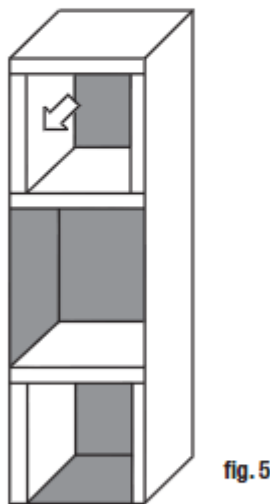

fig. 5
- Install the TUFECOTE® TBK Faced Foam to the inside of the housing and over the vibration control tape (fig. 5).